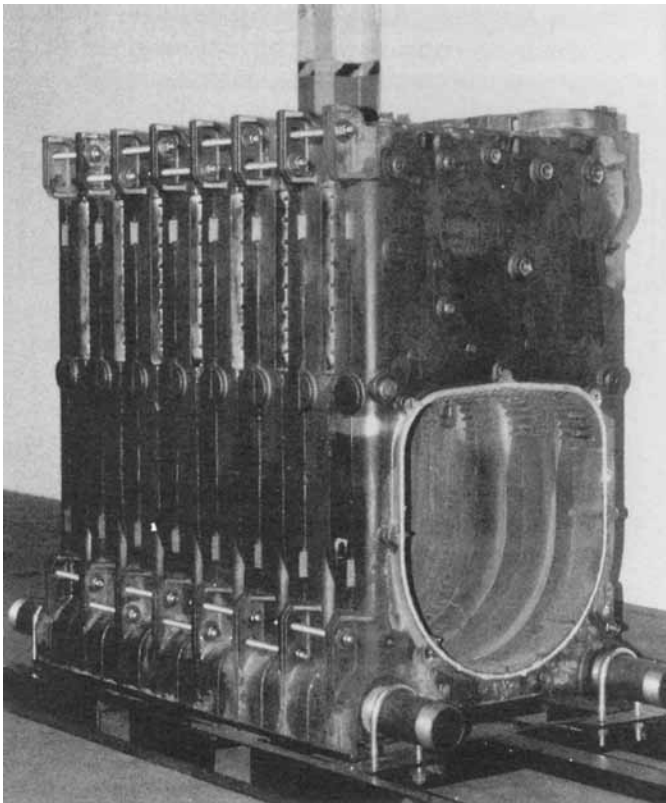

Figure 13: Boiler Section Assembly
- n. CONTINUE ASSEMBLING SECTIONS IN THEIR RESPECTIVE ORDER alternating draw-up rods from the upper to lower set of holes in draw-up lugs (see Figure 13). Be certain that all sections are drawn up iron-to-iron at all three (3) nipple ports.